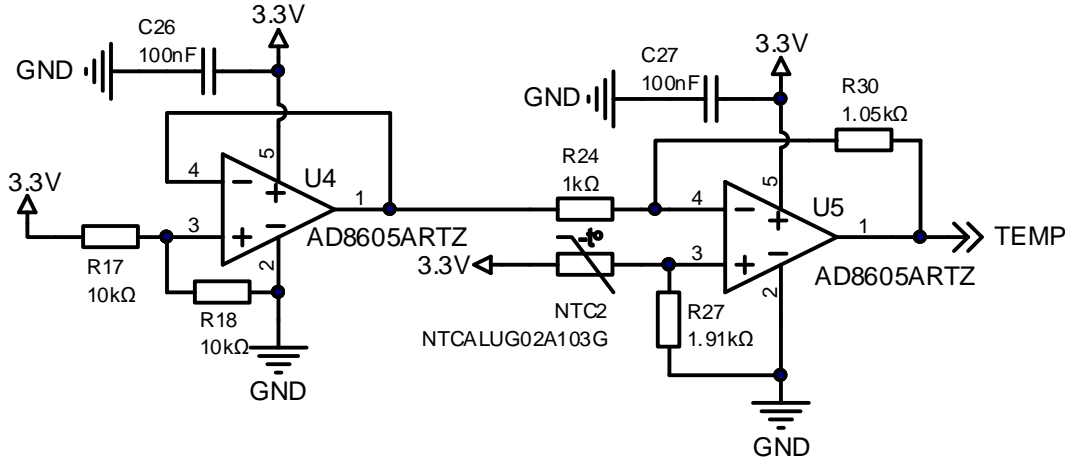

Figure 11: Temperature Signal Conditioning
An NTC (NTCALUG02A103G) senses the heatsink temperature, which ranges between 40°C and 100°C. When the heatsink temperature is between these values, the fan is activated. If the temperature reaches 90°C, the converter is switches off (see Figure 11 on page 14). This threshold value can be modified via the GUI.
Figure 11 shows how a resistor (R_{27}) can be placed in series with NTC2 to linearize NTC2's usable range. R_{27} can be calculated with Equation (23):